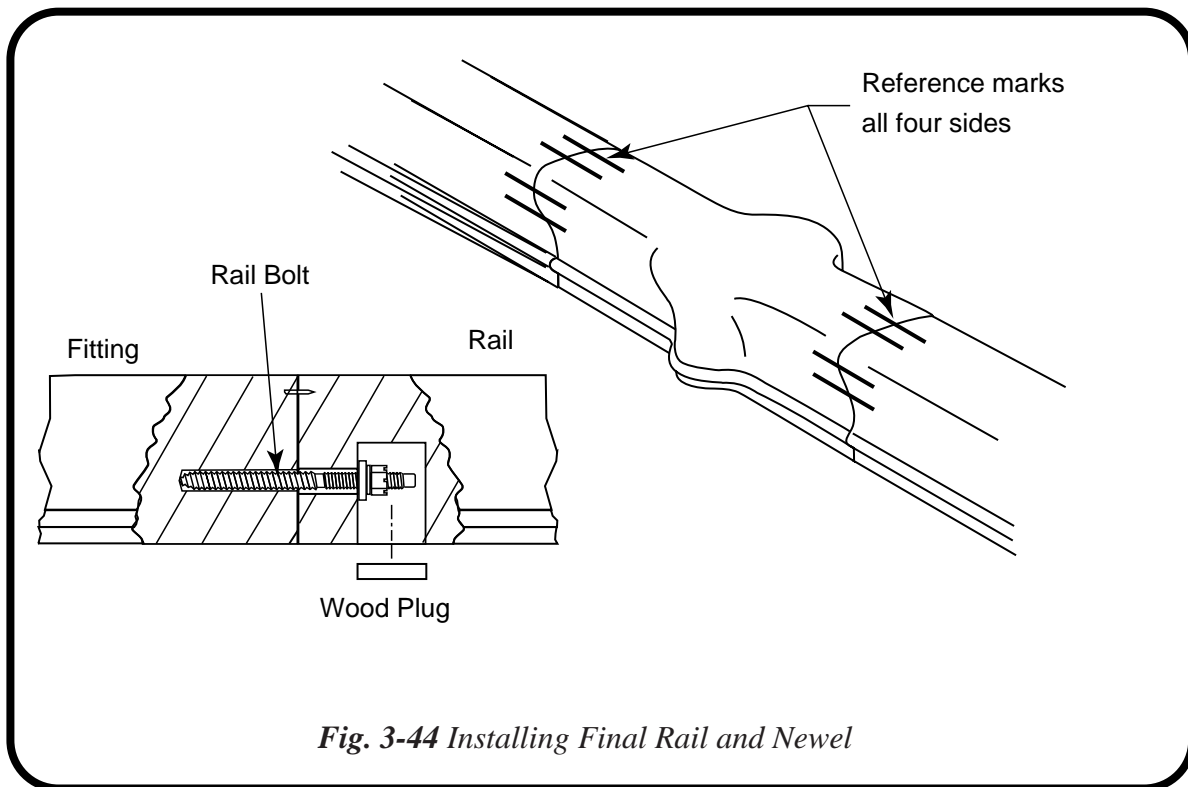

Fig. 3-44 Installing Final Rail and Newel
5. Disassemble the fittings, add wood glue to the joints, and reassemble using the reference lines to realign. Please note Fig. 3-44 here.